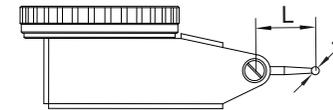

fig.6
4. Each type of dial test indicator has specific length of styli (L, fig.6). If the length is not correct, measurement error will result. Please refer to the following table to choose correct styli.